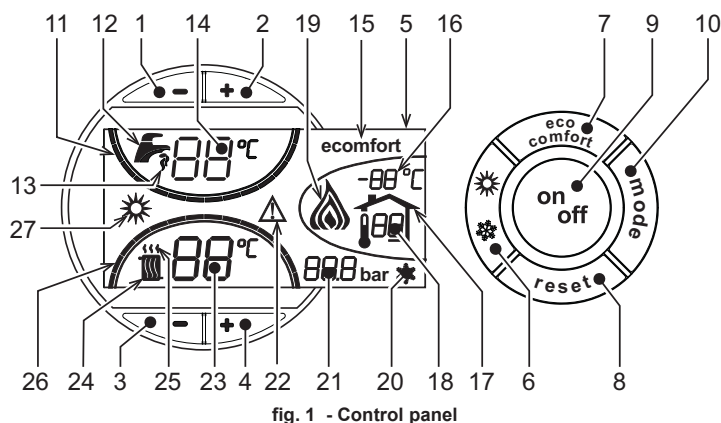
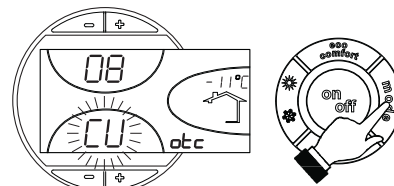

fig. 1 - Control panel
fig. 11 - Compensation curve
A heating demand (generated by the Room Thermostat or Remote Timer Control) is indicated by flashing of the hot air above the radiator (details 24 and 25 - fig. 1).
The heating graduation marks (detail 26 - fig. 1) light up as the heating sensor temperature reaches the set value.
A DHW demand (generated by drawing domestic hot water) is indicated by flashing of the hot water under the tap (details 12 and 13 - fig. 1). Make sure the Comfort function (detail 15 - fig. 1) is activated
The DHW graduation marks (detail 11 - fig. 1) light up as the DHW sensor temperature reaches the set value.
When hot water tank heating is activated (default setting), the COMFORT symbol (detail 15 - fig. 1) is activated on the display, and when off, the ECO symbol (detail 15 - fig. 1) is activated on the display
The hot water tank can be deactivated by the user (ECO mode) by pressing the eco/comfort button (detail 7 - fig. 1). To activate the COMFORT mode, press the eco/comfort button (detail 7 - fig. 1) again.
Press the **on/off** button (detail 9 - fig. 1) for 1 second.
To relight the boiler, press the **on/off** button (detail 9 - fig. 1) again for 1 second.
- Press the ON/OFF button (9 - fig. 1).
Press the **summer/winter** button (detail 6 - fig. 1) for 1 second.
The display activates the Summer symbol (detail 27 - fig. 1): the boiler will only deliver domestic hot water. The antifreeze system remains activated.
To deactivate the Summer mode, press the **summer/winter** button (part. 6 - fig. 1) again for 1 second.
Use the **heating buttons** (details 3 and 4 - fig. 1) to adjust the temperature from a min. of 30°C to a max. of 80°C.
Use the DHW buttons (details 1 and 2 - fig. 1) to adjust the temperature from a min. of 10°C to a max. of 65°C.
When the optional external probe is installed the control panel display (detail 5 - fig. 1) shows the actual outside temperature read by the probe. The boiler control system operates with "Sliding Temperature". In this mode, the temperature of the heating system is adjusted according to the outside weather conditions, in order to ensure high comfort and energy saving throughout the year. In particular, as the outside temperature increases, the system delivery temperature is decreased according to a specific "compensation curve".
With Sliding Temperature adjustment, the temperature set with the heating buttons (details 3 and 4 - fig. 1) becomes the maximum system delivery temperature. It is advisable to set a maximum value to allow system adjustment throughout its useful operating range.
Press the **mode** button (detail 10 - fig. 1) once to display the actual compensation curve (fig. 11), which can be modified with the **DHW buttons** (details 1 and 2 - fig. 1).